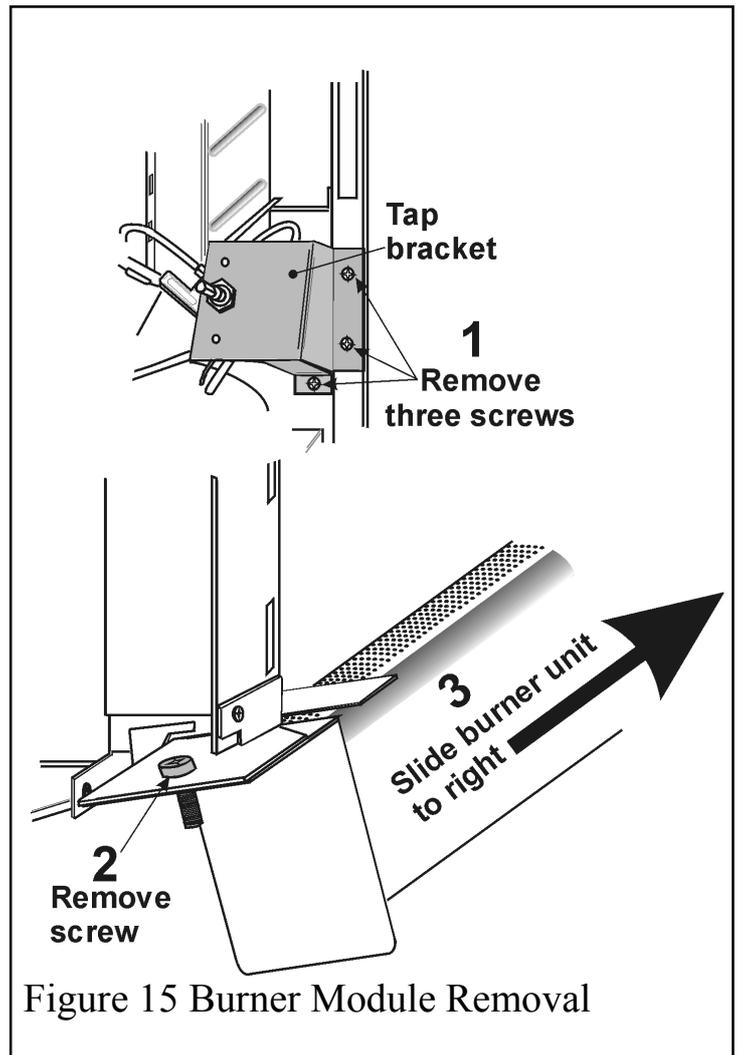

Figure 15 Burner Module Removal
**7.8.4** Detach the gas tap bracket from the right side of the appliance by removing three screws. See figure 15.
**7.8.5** Detach the left side of the burner from the firebox by removing one screw. See figure 15.
**7.8.6** Free the burner & pilot module from the rear pilot air pipe and the firebox by carefully sliding the module to the right while pulling it slightly. See figures 15 and 16.